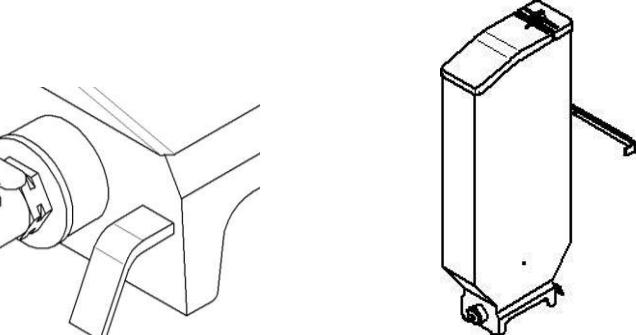

Fig. 2
6. You can screw the supporting bar to the wall to hang plaster tanks, and have them at hand filled with different types of plaster (Fig. 2).